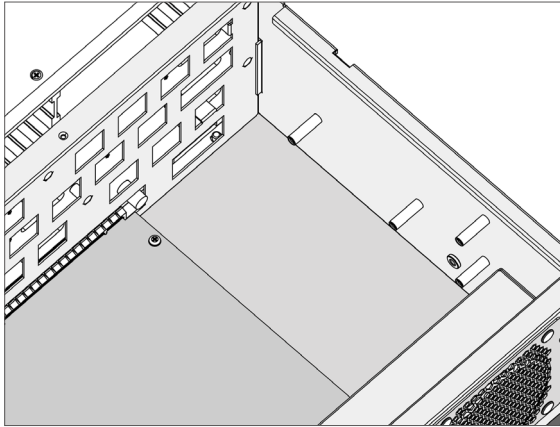

Figure B-5, Removing the Cover
1. Loosen the screws and remove the cover from the ARC-7116 enclosure, as shown in Figure B-5.